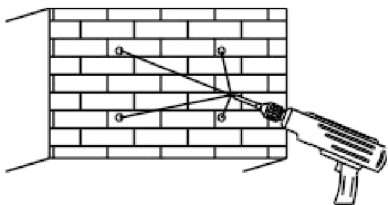

Fig. 12
5. Drill holes in the wall that line up with the mounting holes on the fixture. (Fig. 12)